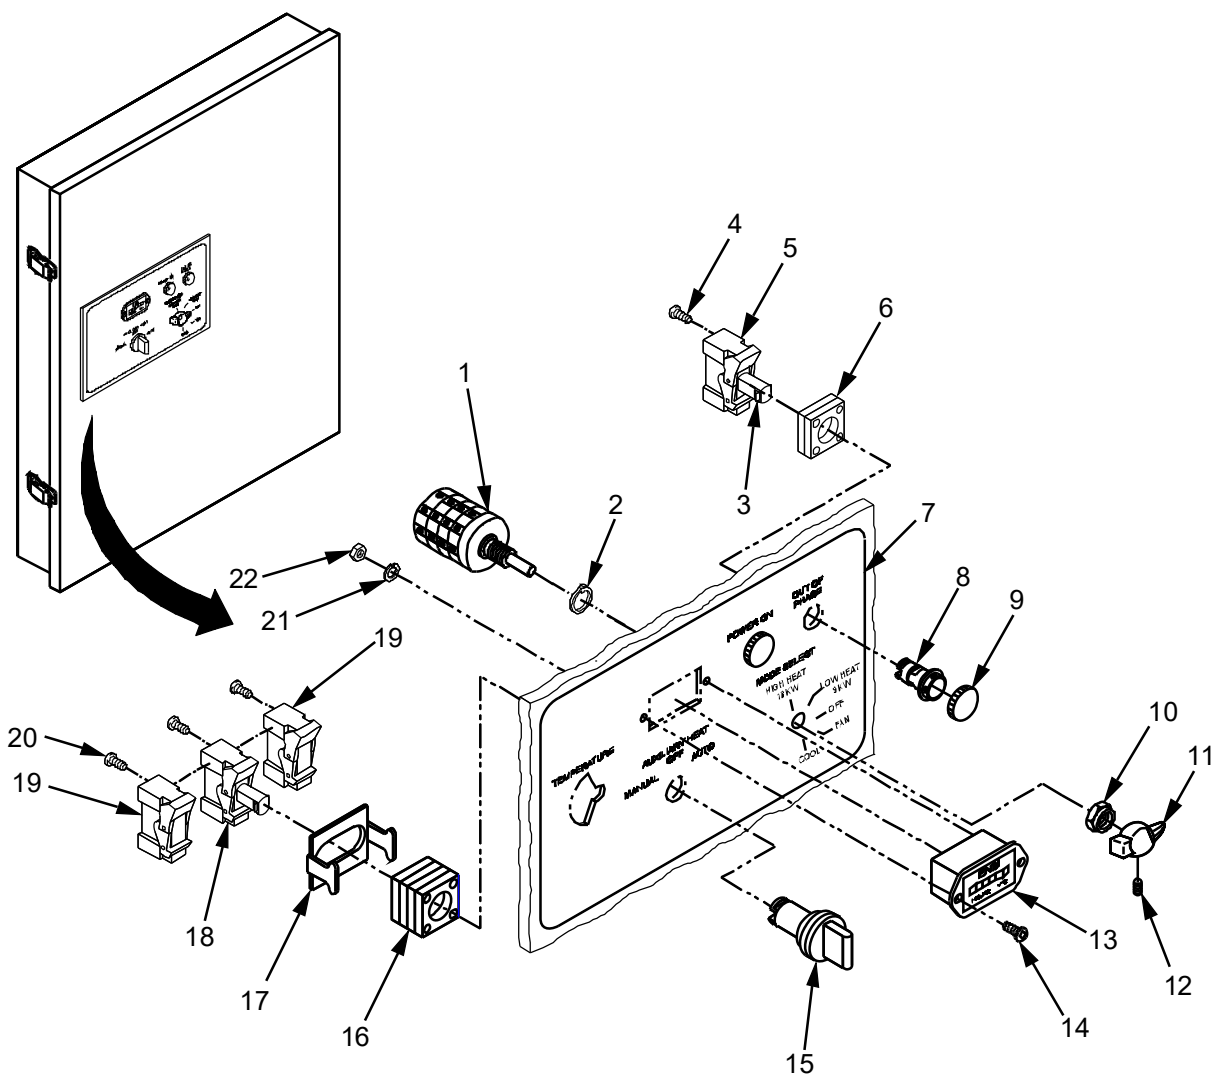

Figure 1. ECU Control Panel Faceplate and Components Replace.
3. Ensure wires from auxiliary heat switches (Figure 1, Items 18 and 19) are properly marked.
4. Loosen lock screws (Figure 1, Item 20) and remove wiring.
5. Using flat tip screw driver press latch to release switch (Figure 1, Item 18 or 19) from bracket (Figure 1, Item 17).
6. If replacing auxiliary heat switch socket (Figure 1, Item 15) and panel socket fastener (Figure 1, Item 16), use a flat tip screw driver to pry panel socket fastener (Figure 1, Item 16) from control panel door (Figure 1, Item 7) and remove.
1. Insert auxiliary heat switch socket (Figure 1, Item 15) into ECU control panel (Figure 1, Item 7) and secure using panel socket fastener (Figure 1, Item 16).
2. Ensure bracket (Figure 1, Item 17) is properly positioned.
3. Position auxiliary heat switches (Figure 1, Items 18 and 19) so that numbering on back is right side up.
4. Press auxiliary heat switches (Figure 1, Items 18 and 19) into bracket (Figure 1, Item 17) until they snap into place.
5. Connect wires to auxiliary heat switches (Figure 1, Items 18 and 19) using lock screws (Figure 1, Item 20).
6. Close ECU control panel door (Figure 1, Item 18) and install access cover (Figure 1, Item 1).